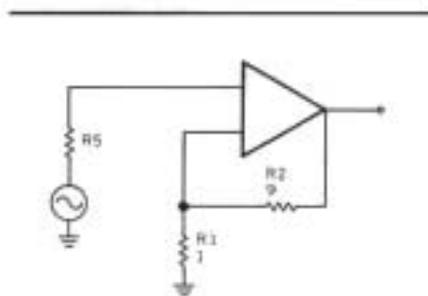

FIGURE 13: For low noise, $R2\parallel R1$ should be lower than R_s .
2. Feedback network. Because the feedback network also contributes to the total input noise, you must reduce it as much as possible. Ideally, the value of the two resistors in parallel should be lower than the lowest impedance pickup you are likely to use. Since the lowest impedance pickup is around 2Ω , it should ideally be 1Ω or so, as shown in Fig. 13. With a closed-loop gain of $10\times$ or 20dB , the amplifier output must drive a 10Ω load, which is almost equivalent to a loudspeaker load. Clearly, you will run into problems driving such a load if you need, say, 10V RMS at the output. Fortunately, this is not necessary. Most normal RIAA inputs have an input overload capability of only a few hundred mV, which is what the MC-preamp must deliver. (You may